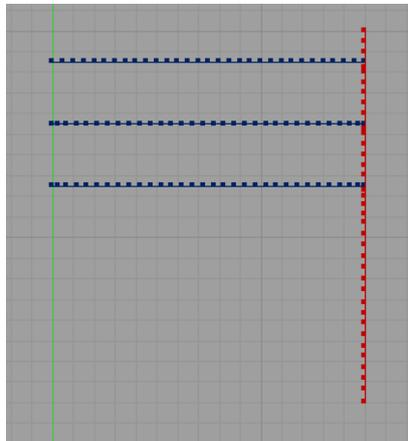

Figure 39. Excluded elements from the initial stage.
3. To see the excluded elements from the mesh, change the **View mode** from Current to **Exclude** using drop-down list. The excluded elements are as shown in Figure 39.